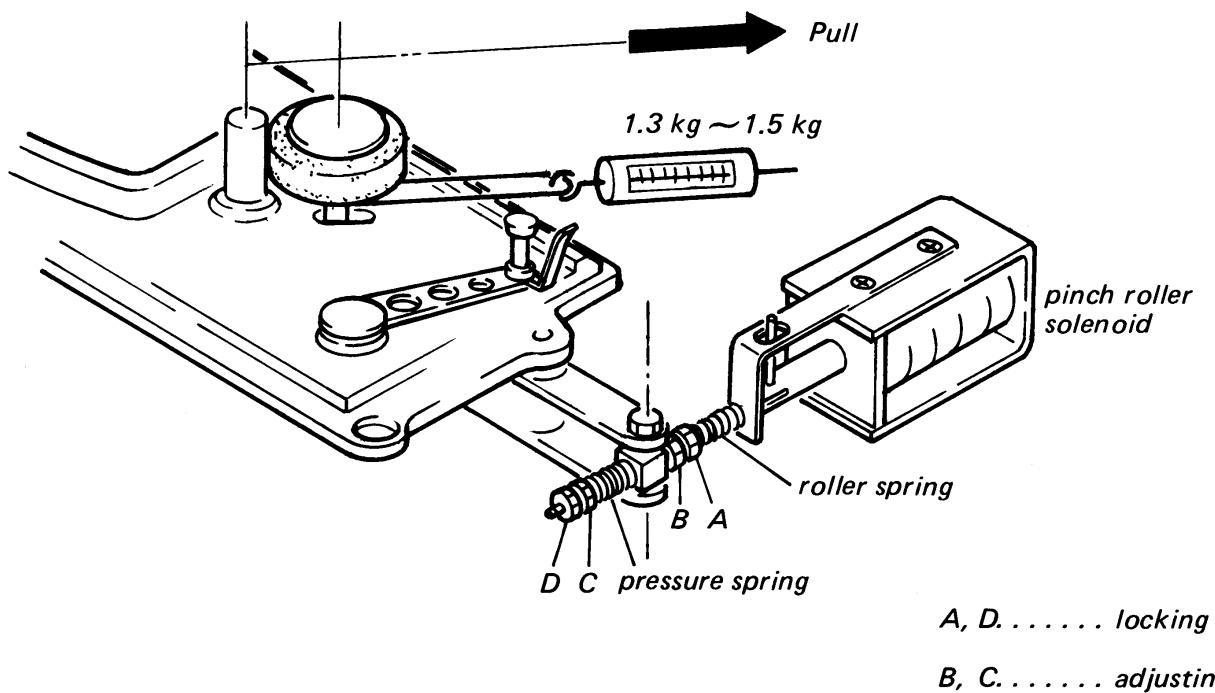

Fig. 3-4. Pinch roller pressure adjustment
3-4. Pinch Roller Pressure Adjustment (See Fig. 3-4)
- 2) Set the spring scale to the pinch roller as shown in Fig. 3-4. Push the FORWARD button "►".
roller stops rotating at the instant and adjust the adjusting nut C (see Fig. 3-4) of the pinch roller solenoid for a spring scale reading between 1.3 and 1.5 kg.